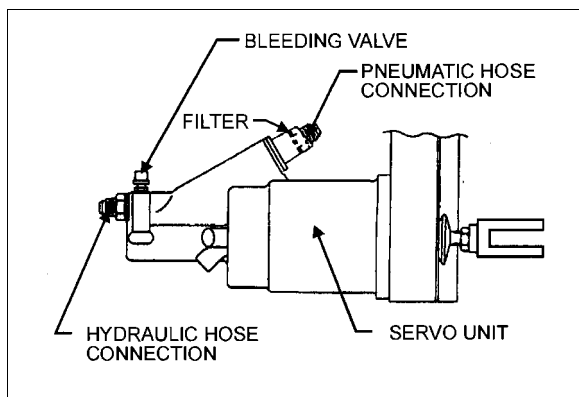

FIGURE 6: SERVO UNIT
2. Attach a plastic tube to the bleeding valve (Fig. 6). Dip the other end of the tube in a jar containing several inches of clean brake fluid.
2. Slightly loosen teflon flexible hydraulic hose connector from adaptor mounted on extremity of servo unit (Fig. 6).
The pneumatic air line filter should be cleaned every 6,250 miles (10 000 km) or twice a year, whichever comes first (Fig. 6). The filter is mounted inside servo unit pneumatic branch.